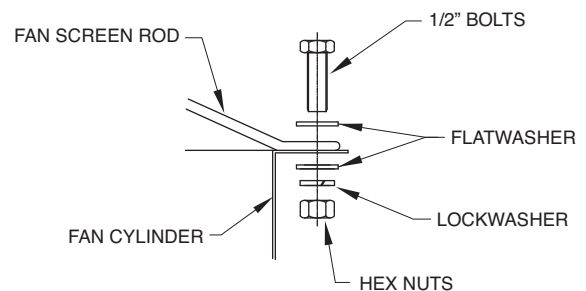

Figure 17 – Attachment of Fan Screen to Discharge Cylinder
4. At each hole, attach the fan screen to the discharge cylinder as shown in Figure 17. At the four points where the support frame meets the cylinder, bolt the support frame to the cylinder together with the fan screen.